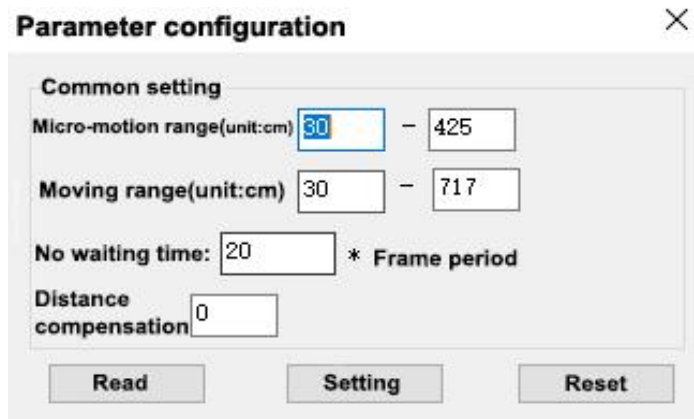

Figure 4 Upper computer 2
Step 2: Click the "Parameter Configuration" button, and the parameter configuration interface will pop up, as shown in Figure 4. Users can edit the corresponding parameter values according to their needs, and click the "Set Parameters" button to send the updated parameters to the radar module and return to the main Interface of the host computer. For the parameter meaning and configuration method in the interface, please refer to Chapter 5 Communication Protocol;